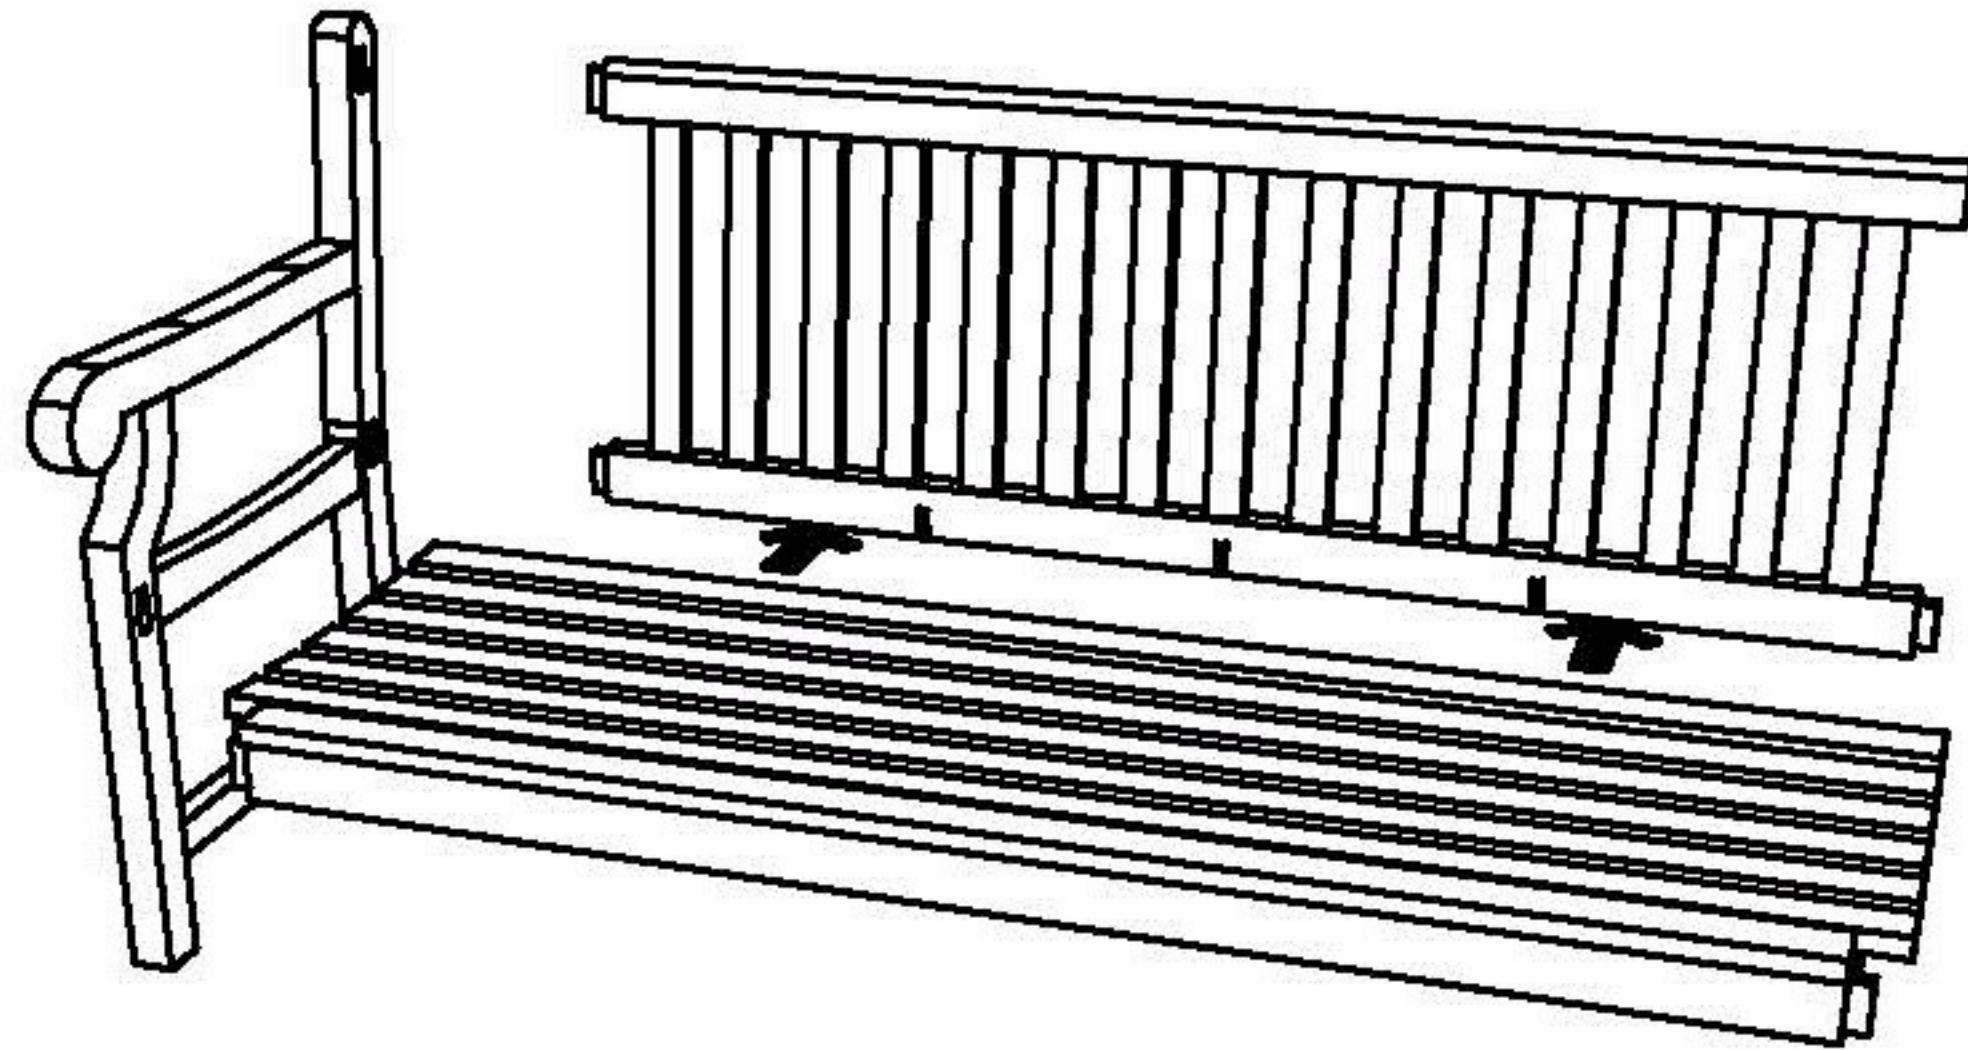

fig 2.
3. Insert the seat into back support of the seat. (Fig. 2)